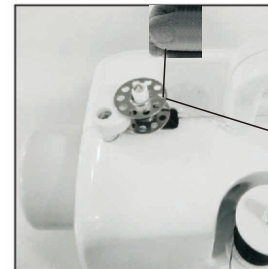

Fig.14
4. Push bobbin to the left (Fig. 14)